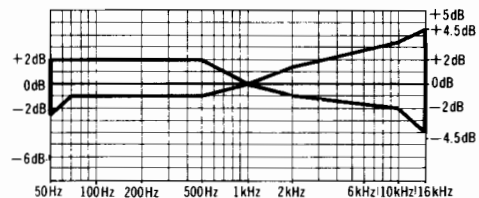

Fig. 16
8. Change test tape to CrO₂ reference blank test tape (QZZCRX), and record 1kHz, 50Hz, 100Hz, 200Hz, 500Hz, 4kHz, 8kHz, 10kHz, 12.5kHz, 14kHz and 16kHz signals. Then, playback the signals and check if the curve is within the limits shown in the overall frequency response chart for CrO₂ tapes (fig. 16).
9. Place UNIT into metal tape mode and change test tape to metal reference blank test tape (QZZCRZ), and record 1kHz, 50Hz, 100Hz, 200Hz, 500Hz, 4kHz, 8kHz, 10kHz, 12.5kHz, 14kHz and 16kHz signals. Then, playback the signals and check if the curve is within the limits shown in the overall frequency response chart for metal tapes (fig. 16).